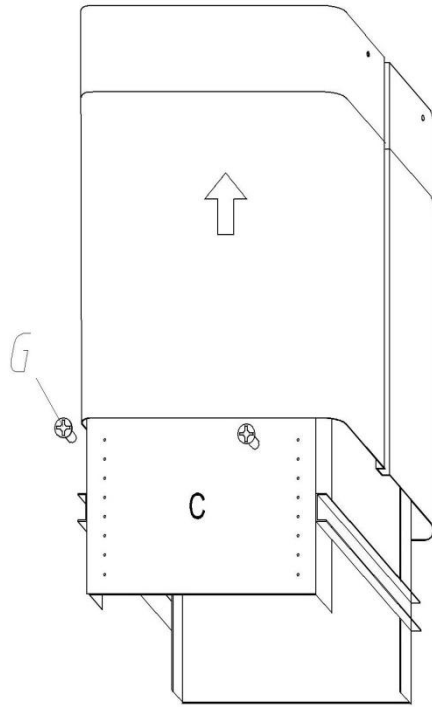

Fig. 8
- Take the lower chimney and fix it with 2 unit screws **G**, drive in hood to avoid it down . (Fig.8)